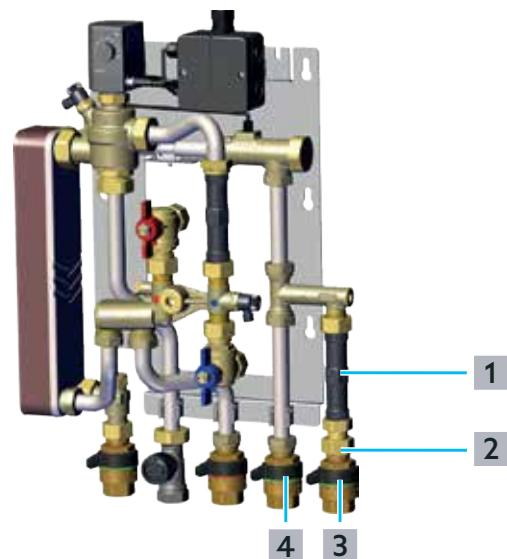

Fig. 11: Mounting the water meter
- 1 Close the ceramic disc valves in the cold water inlet (3) in Fig. 11 on page 19) and cold water outlet (4).
- 4 Loosen the union nut of the coupling (2).
- 5 Remove the spacer (1) with the coupling from the pipe.
- 9 Slowly open the ceramic disc valves in the cold water outlet (4) and cold water inlet (3).